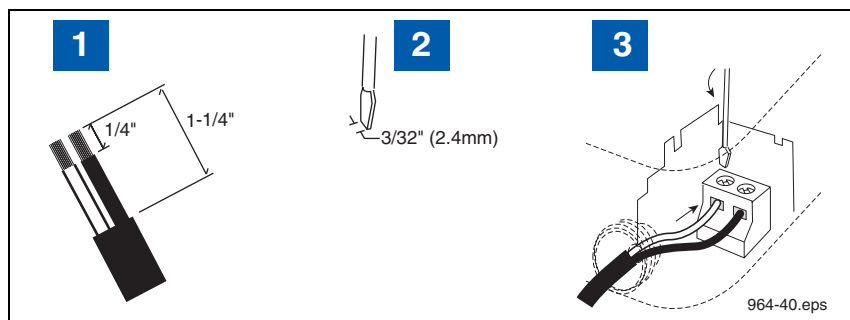

Figure 4. Connecting Wiring To Device Terminal Blocks
- d. Strip back the cable jacket and wires as shown in Figure 4.
### LEGEND FOR NUMBERED BOXES IN Figure 4
NOTE: see Figure 4 for wire connection tips. NOTE: In sites with more than one TLS RF, the Receiver is only connected to the master TLS RF.